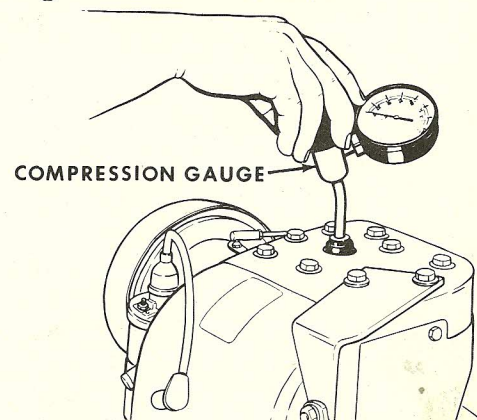

Figure M-1
4. With the speed control lever in neutral or brake position, use a compression gauge similar to that shown in Figure M-1.